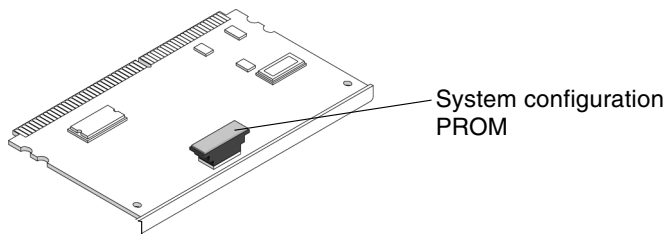

FIGURE 5-10 Locating the System Configuration PROM
6. Remove the system configuration PROM (FIGURE 5-10) from the system controller and place it on an antistatic mat.